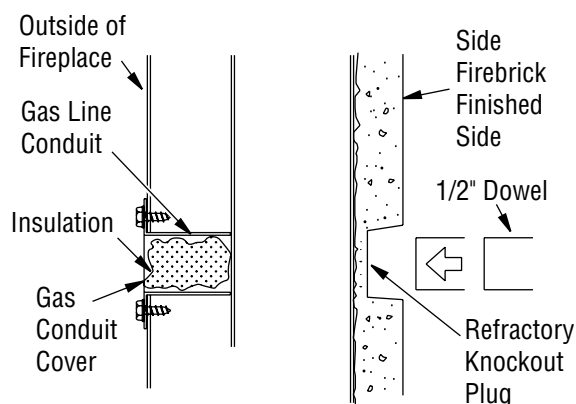

Figure 21 - Gas Line Knockout
1. Remove knockout indentation on refractory or firebrick wall located above refractory hearth floor. Knockout indentation must be firmly tapped with any solid object, such as a 1/2" dowel, until it is released. Remove fragmented portions of refractory (see **Figure 21**).